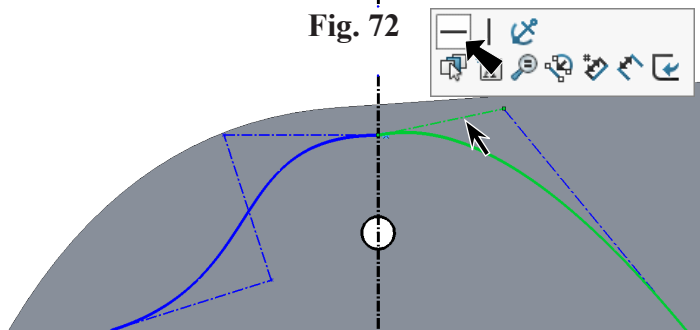

Fig. 73
Step 12. Click **top control polygon segment** of second style spline and click **Make Horizontal**  on the context toolbar, **Fig. 73**.